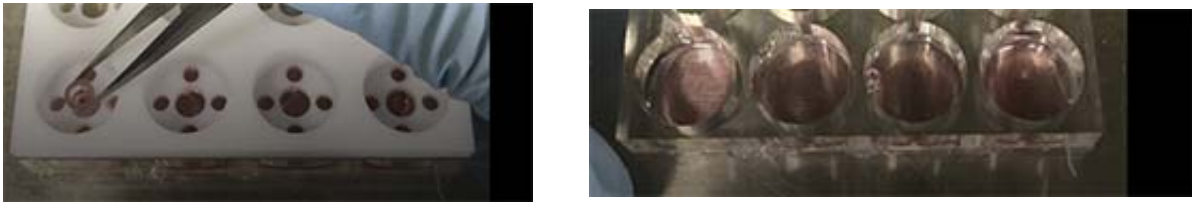

Figure 8. Remove the cloning rings (left), and then CellSpotter after removing all coning rings.
8. Remove gently the cloning rings for all wells (Figure 8, left) and then CellSpotter (Figure 8, right).